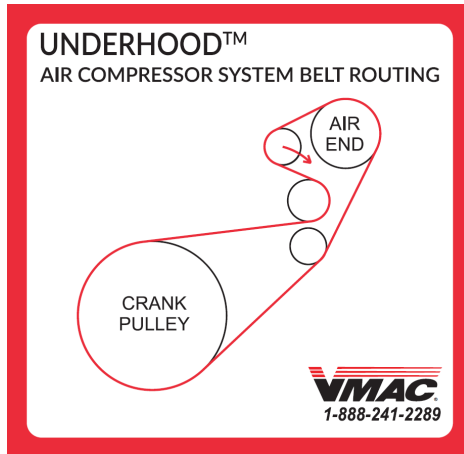

Figure 54 — Belt routing label
- Install the VMAC belt routing diagram in a suitable location under the hood (Figure 54).